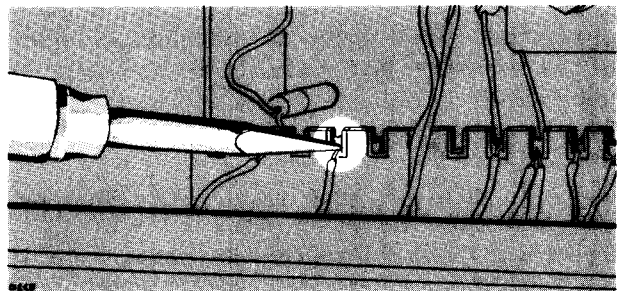

Fig. 4-2. Method of applying heat to ceramic strip.
4. Apply one corner of the tip to the notch where you wish to solder (see Fig. 4-2).